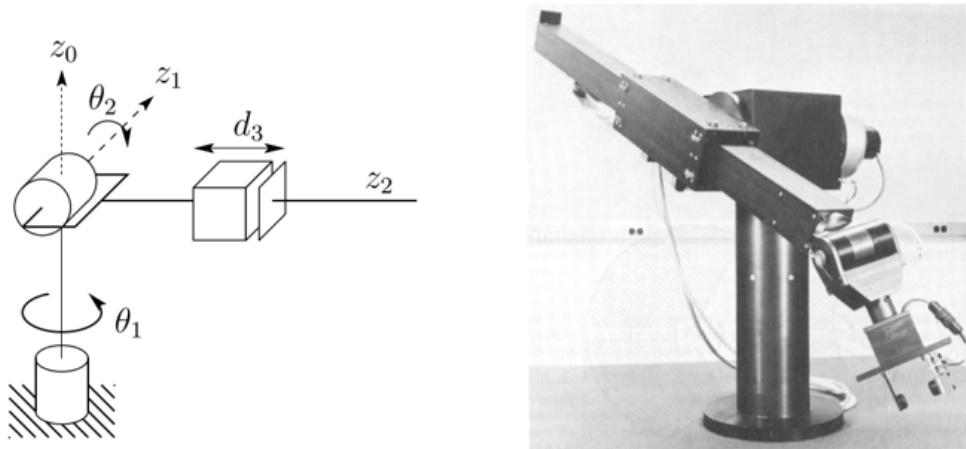

Figure 2: Left: the spherical manipulator; Right: an example of a particular design of spherical manipulator - the Stanford Arm
- (a) Calculate the  $3 \times 3$  linear velocity Jacobian  $J_v$  for the spherical manipulator with no offsets shown in the left side of Figure 2. You may use any method you choose.